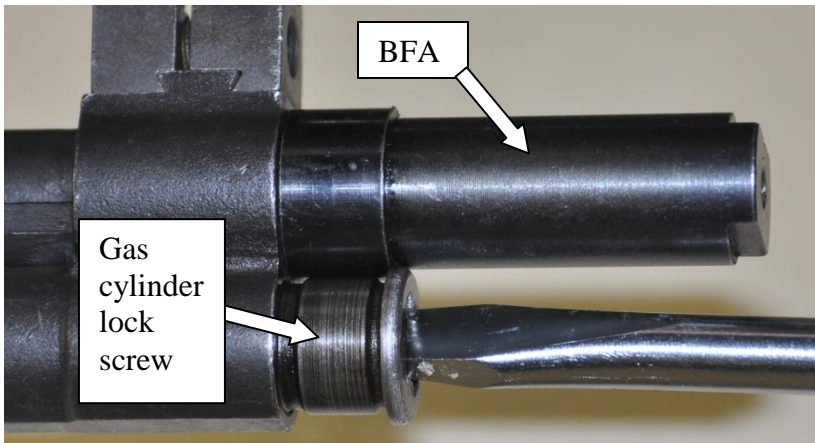
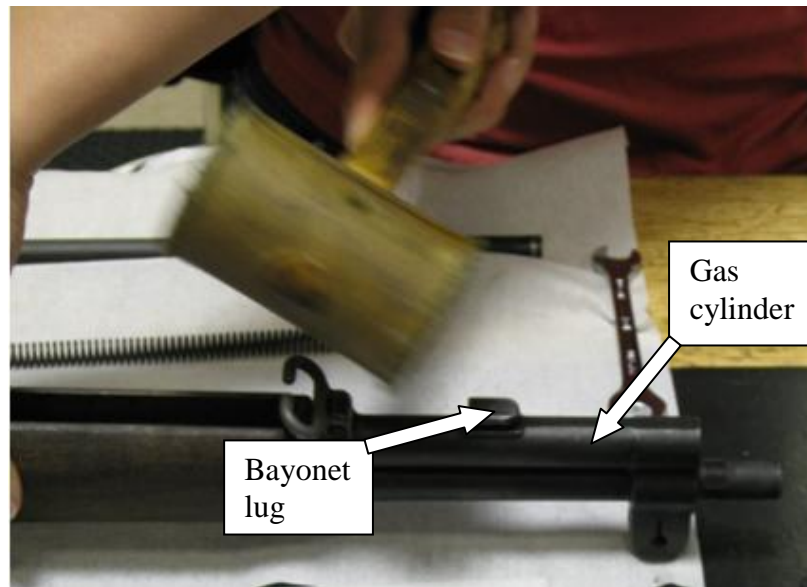
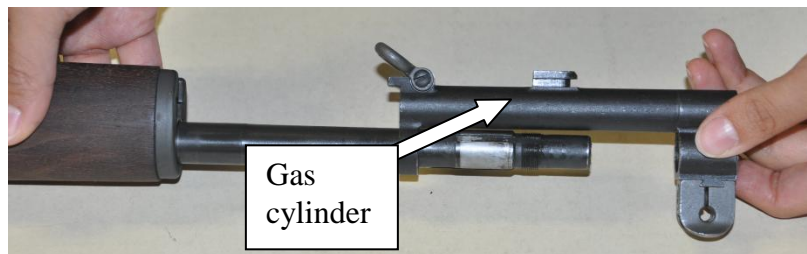

Figure 23. Gas cylinder lock screw removal
Figure 25. Loosen gas cylinder with wooden mallet
Figure 26. Gas cylinder removal
7) Using a T-grip screwdriver (preferred) or a standard flathead screwdriver, unscrew and remove the gas cylinder lock screw and then unscrew the Blank Firing Adapter (BFA) (fig 23 and 24). If necessary apply light pressure with 7/16 inch wrench to remove the BFA. Loosen the gas cylinder by tapping lightly toward the muzzle on the bayonet lug with a wooden mallet or similar soft object (fig 25) and remove (fig 26).